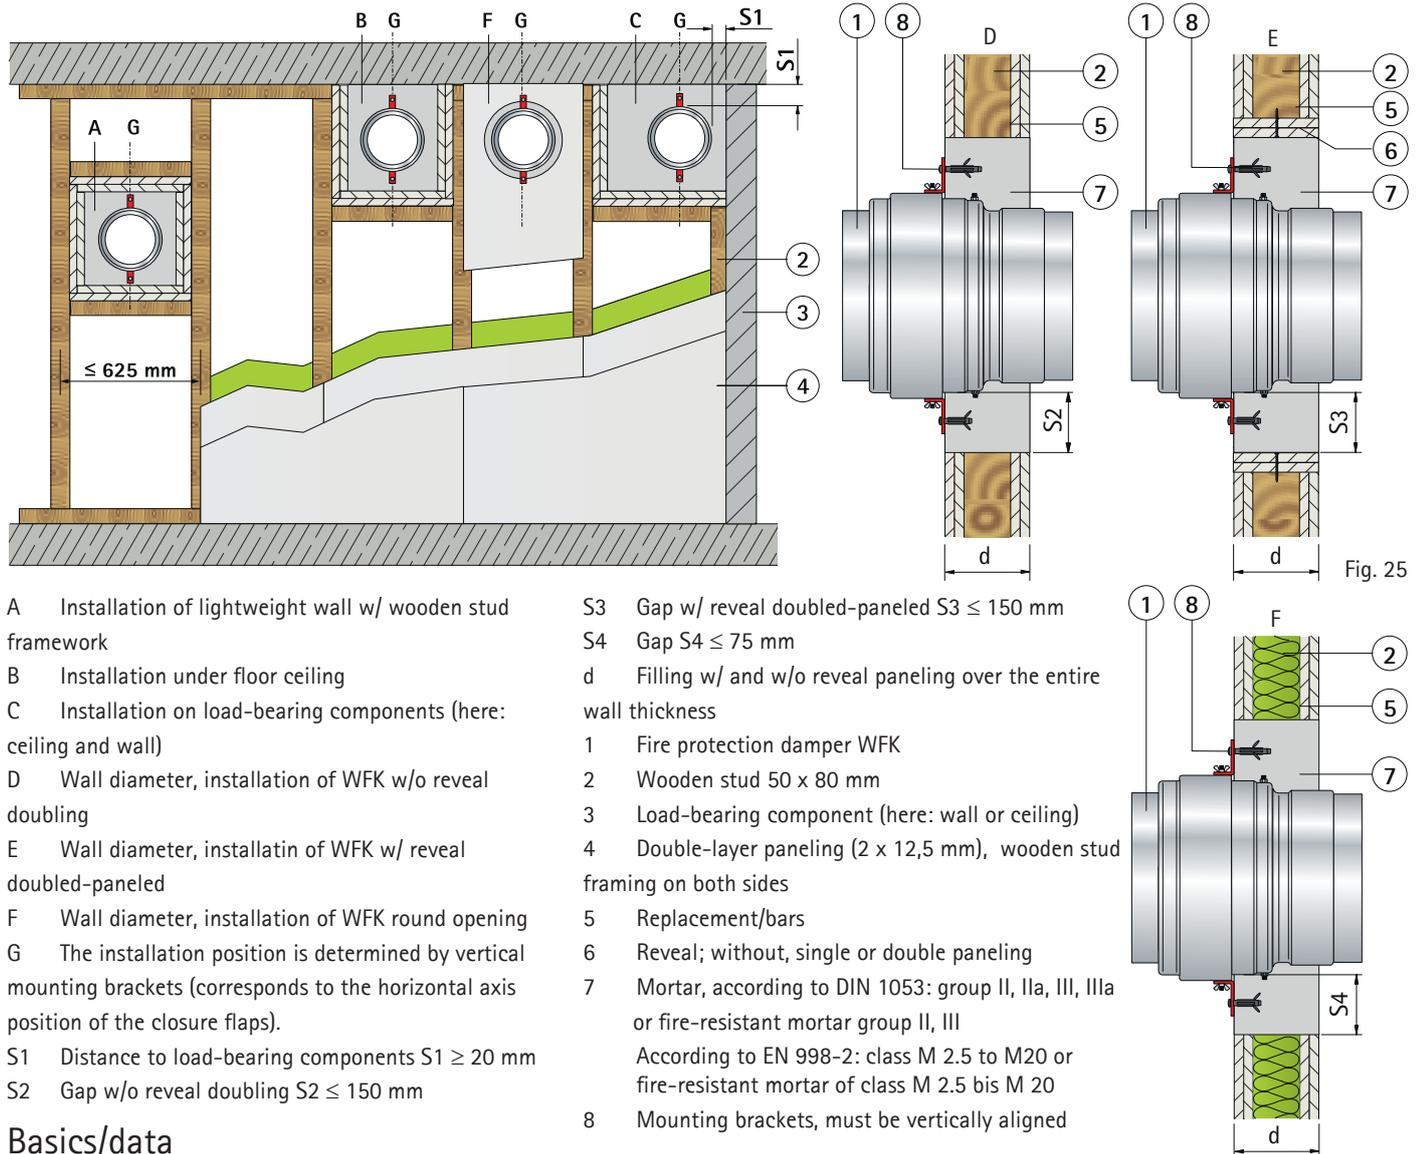

Fig. 25
Mounting brackets must be vertically aligned and flush (Fig.25, ②) with the wall, use screws if necessary. The wall- / ceiling-flush leg can be shortened if space is limited.